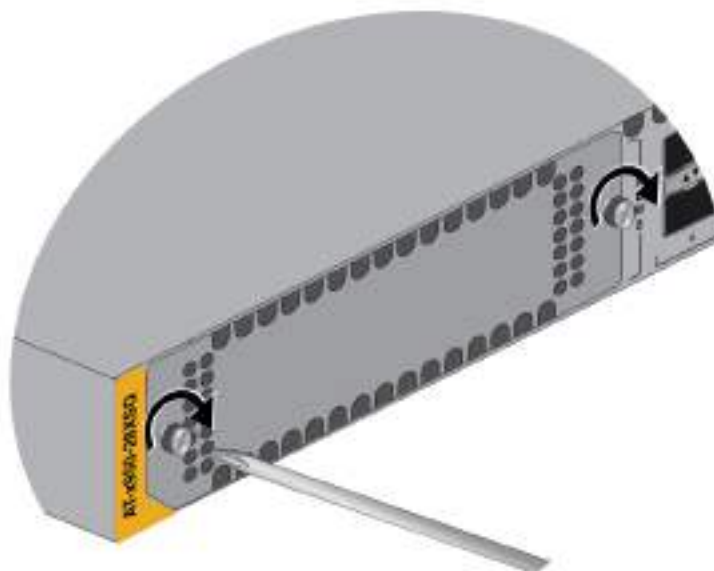

Figure 127. Tightening the Two Screws on the Line Card Blank Panel
10. Tighten the two screws to secure it to the switch. Refer to Figure 127 on page 186.